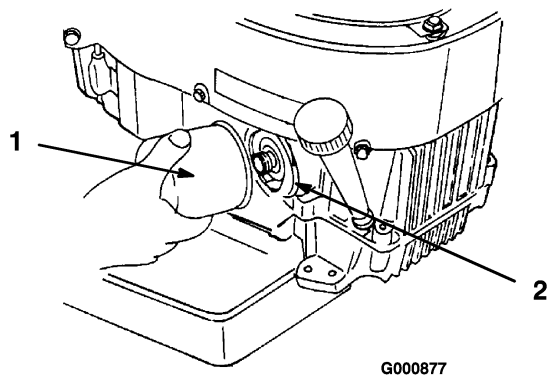

Figure 24
2. Remove the old filter (Figure 24).
4. Install the replacement oil filter to the adapter. Turn the oil filter clockwise until the rubber gasket contacts the filter adapter, then tighten the filter an additional 3/4 turn (Figure 24).